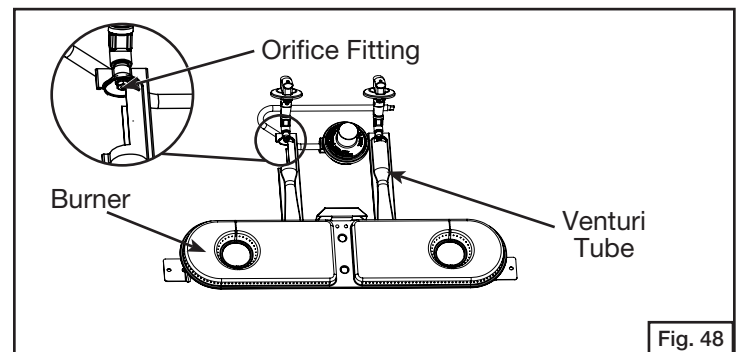
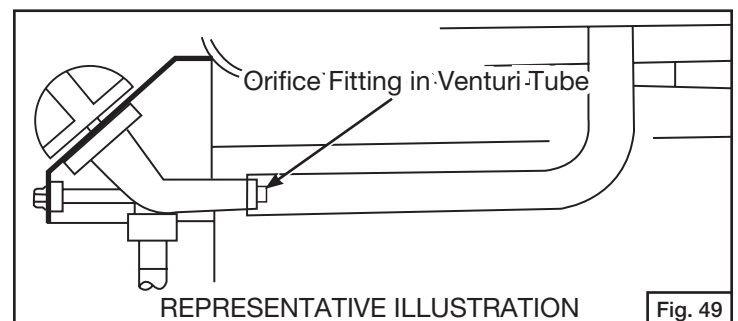

Fig. 48
Fig. 49
7. Make sure the orifice fittings are inside the venturi tube, then tighten all self tapping screws. (Fig. 48 and Fig. 49)